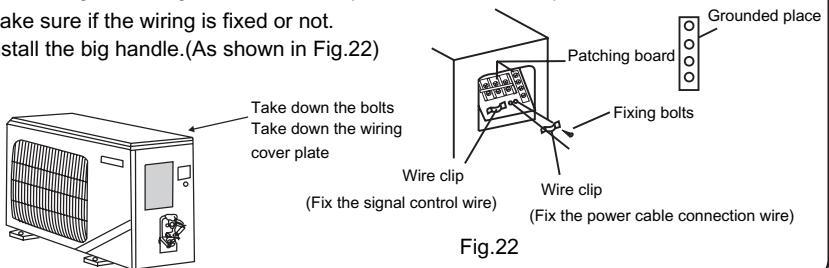

Fig.22
- ① Disassemble the handle on the right side of outdoor unit.
- ② After wiring according to the sketch map, fix it with wire clamp.
- ③ Make sure if the wiring is fixed or not.
- ④ Install the big handle.(As shown in Fig.22)